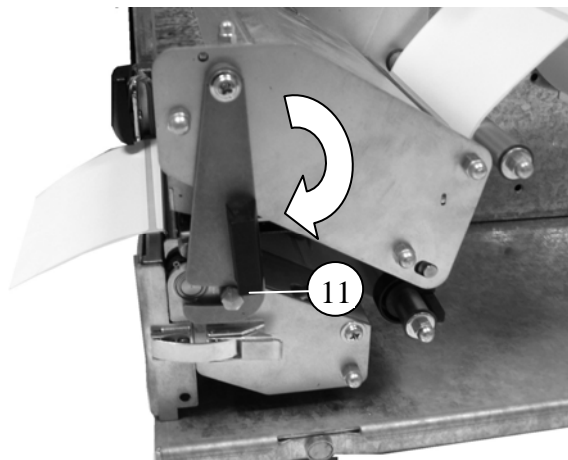

Fig. 13 – Closing the print head assembly
- Move the print head lock lever (11) to the closed position (13) (see Fig. 13).